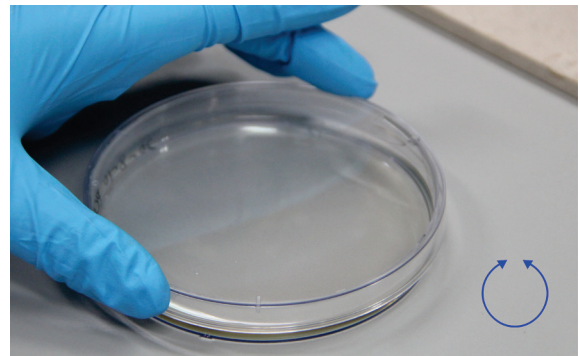

Fig. 18
25. Using the 20 ml measuring cylinder, transfer 11 ml molten PCA solution to the dish. Swirl the dish gently to mix the solution,# and allow it to solidify (Fig. 18).